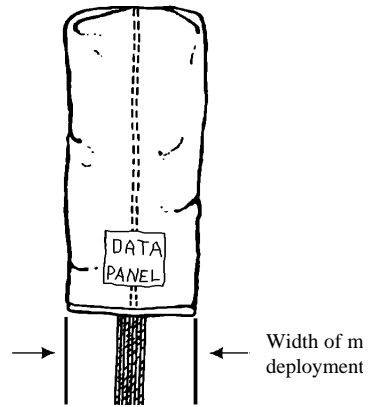

Figure 10
Step 11.) Kneel on the trailing edge of the center cell of the canopy and center the middle seam of the center cell in the middle of the canopy bundle. “Cocoon” fold the bundle by spreading the center cell of the canopy to the approximate width of the main deployment bag and tuck the outer edges of the material under the bundle. (See Figure 10.) **(If you have a diaper deployment system go to Step 13.)**